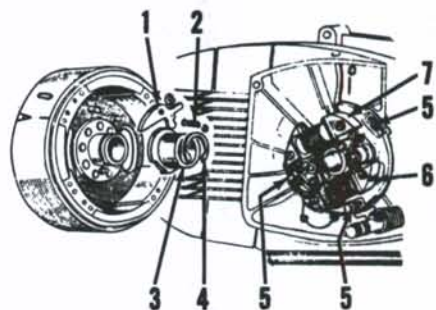

Fig. BE2-2—View of the ignition and generator with flywheel removed. Make certain that ignition advance (1, 2 & 3) operates freely.
All models are equipped with an energy transfer ignition system. The low tension ignition coil (6—Fig. BE2-2), breaker points, condenser and generator coil (7) are located under the fly-